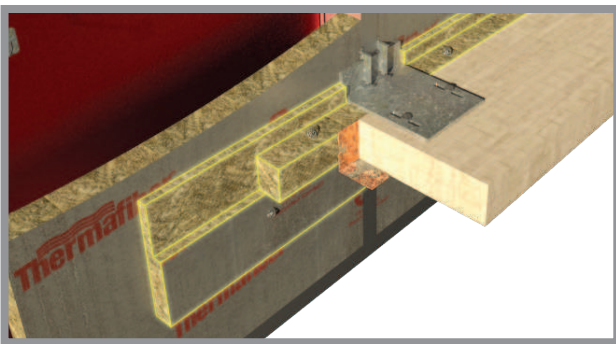

Figure 3
Step 2- The next step is to install the FireLedge Insulation. The FireLedge is a FSP faced insulation 12" wide by 2" thick with the 6" wide section cut down to 1" thick. See Figure 3. The FireLedge is installed in conjunction with the Safing Insulation. Rest the Safing on the 1" ledge of the FireLedge. The Safing Insulation is to be put in under a minimum 25% compression with the fibers in the vertical direction and installed at a depth of 4". Compress the Safing Insulation so that it can be installed in the safe-off opening. The FireLedge will run continuously over the FireSpan 90 Insulation and the vertical mullions at the floor level so that the 1" thick portion extends 2" above the top surface of the floor with the vertical seams abutted tightly together. Vertical seams in the FireLedge must be staggered with the vertical seams in the Safing Insulation. The top section of the FireLedge is secured to the FireSpan 90 Insulation with spiral anchors installed at a 45° angle through the Safing Insulation every 12" oc. See Figure 3. The lower section of the FireLedge is secured to the FireSpan 90 with spiral anchors installed at a 90° angle every 16" oc. See Figures 3 and 4.